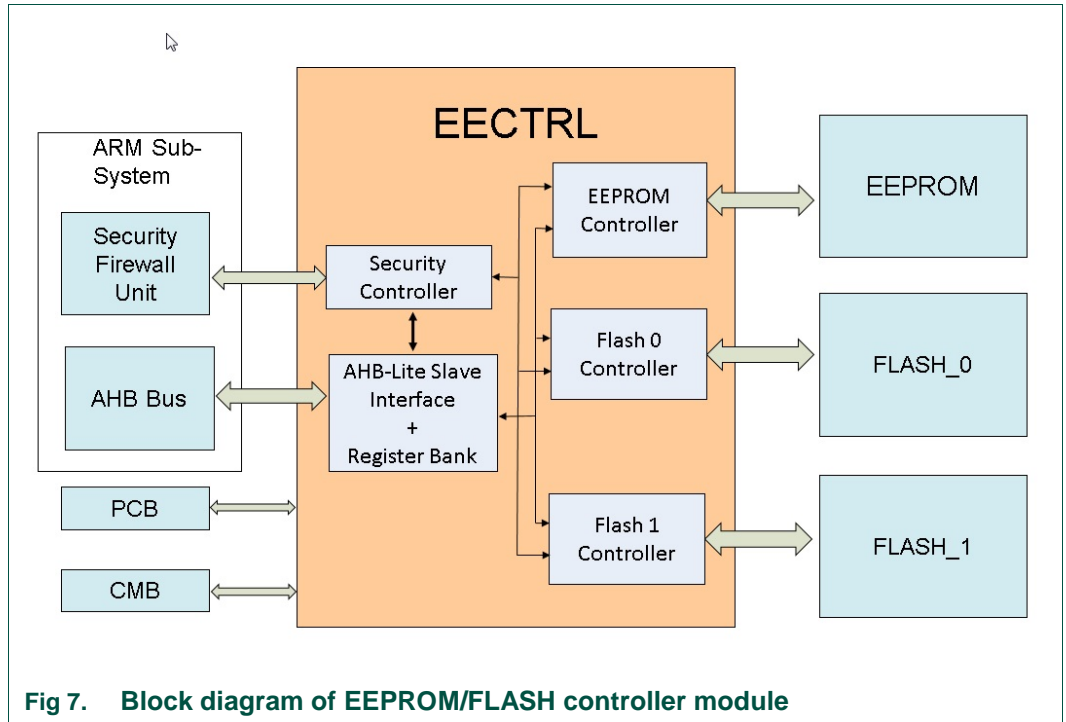

Fig 7. Block diagram of EEPROM/FLASH controller module
- Implementing security bits (at boot time the EEPROM first word is read. Part of those bits are controlling the Flash access and the CMB enabling. These bits are available in a register). Fig 7 shows the block diagram EEPROM/flash controller module